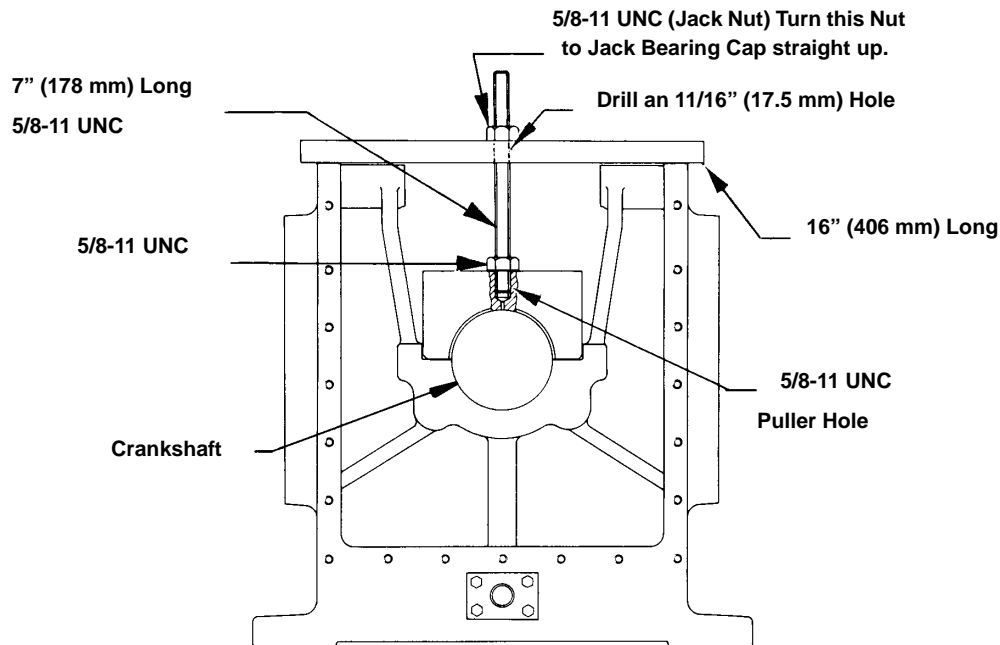

FIGURE 5-5 BEARING CAP PULLER
6. Remove the capscrews from the bearing caps. Pull the caps straight up to prevent damage to the dowel fit. If the cap is tight, use a Bearing Cap Puller as illustrated in Figure 5-5